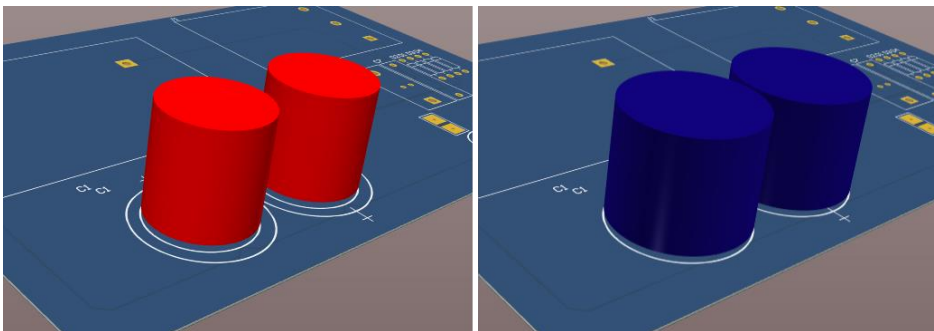

Figure 18. 3D View of the two Variants
52. Switch between the 120VAC and 240VAC modes in the *Projects* panel. Confirm that both 120VAC and 240VAC variant modes will display the 3D as shown in Figure 18.